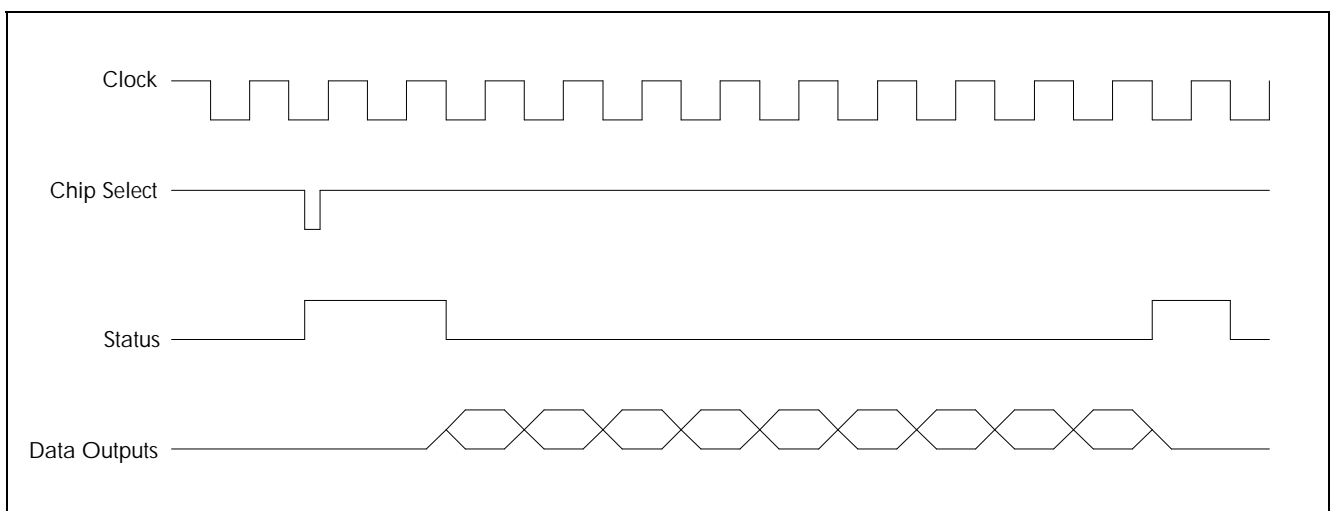

Figure 11 : *Timing Diagram*
Using a four channel isolator allows full control over the ADC to be exercised. Conversion is requested by pulling the chip-select pin low (CS) and a status high for one clock cycle is reported back to acknowledge conversion start. The first data bit (MSB) is then presented onto the data line and all eight bits are transferred with a further status signal at the end of conversion (see figure 11). Conversion can be requested asynchronously with the system clock if necessary and the status flag could be used to poll the controlling logic circuitry.